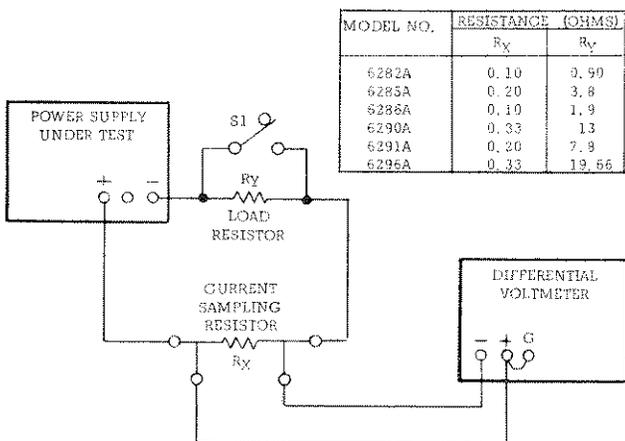

Figure 5-4: Output Current Test Setup
- Connect test setup shown in Figure 5-4, leaving switch S1 open.
a. Connect test setup shown in Figure 5-4. *with 5-25*
a. Utilize test setup shown in Figure 5-4 leaving switch S1 open throughout test.
a. Use test setup shown in Figure 5-4, except connect AC voltmeter across sampling resistor instead of differential voltmeter.